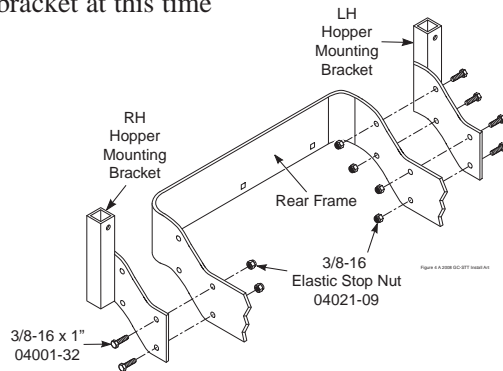

FIGURE 3-4
11. Install the LH & RH hopper mounting brackets to the outside of the frame on the rear of the machine and secure using six (6) 3/8-16 x 1" hex head bolts, and six (6) 3/8-16 elastic stop nuts. See Figure 3-4. Do Not install mounting hardware in the rear holes provided in the RH hopper mounting bracket at this time